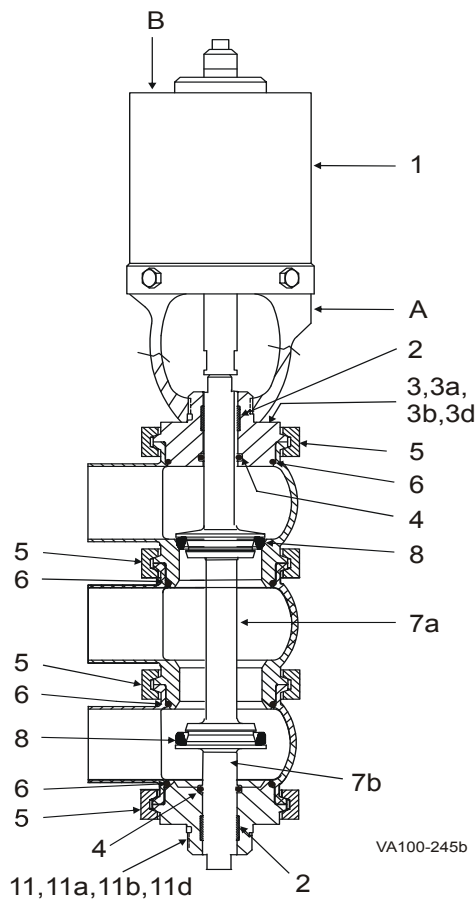

Figure 25: W65/W85 Divert Valve
1. Remove the lower body clamp (Figure 25, item 5) and the lower body.
2. Remove the body o-ring (item 6); replace as needed.
3. If necessary, remove the lower bearing carrier (item 11) from the lower body.
4. Remove the body o-ring (item 6) and stem o-ring (item 4) from the bearing carrier; replace as needed.
5. Inspect and replace the PTFE bearing (item 2) as needed.
6. Using 5/8-inch wrench flats on the stem, unscrew and remove the lower valve stem (Figure 25, item 7b).
8. Replace the lower seat ring (Figure 25, item 8) as needed. See "Seat Replacement" on page 35.
9. Remove the middle body clamp (item 5) and the middle body.
10. Remove the middle body o-ring (item 6); replace as needed.
12. Remove the upper body clamp (item 5) and the upper body from the adapter (item 3).
13. Using 5/8-inch wrench flats on the stem, unscrew and remove the upper valve stem (item 7a).
14. Replace the seat ring (item 8) as needed. See "Seat Replacement" on page 35.
15. Unscrew the adapter (item 3) from the yoke.
16. Remove the body o-ring (item 6) and stem o-ring (item 4) from the adapter; replace as needed.
17. Inspect and replace the PTFE bearing (item 2) as needed.
7. Using 5/8-inch wrench flats on the stem, unscrew and remove the lower valve stem (Figure 25, item 7b).
8. Replace the o-ring (Figure 25, item 9) in the counter bore of the lower stem as needed.
9. Replace the lower seat ring (Figure 25, item 8) as needed. See "Seat Replacement" on page 35.
13. Remove the middle body clamp (item 5) and the middle body.
14. Remove the middle body o-ring (item 6); replace as needed.
15. Remove the upper body clamp (item 5) and the upper body from the adapter (item 3).
16. Using 5/8-inch wrench flats on the stem, unscrew and remove the upper valve stem (item 7a).
17. Replace the seat ring (item 8) as needed. See "Seat Replacement" on page 35.
18. Unscrew the adapter (item 3) from the yoke.
19. Remove the body o-ring (item 6) and stem o-ring (item 4) from the adapter; replace as needed.
1. Screw the adapter (Figure 25, item 3) onto the yoke.
2. Install the upper body o-ring (item 6) onto the adapter.
3. Using 5/8-inch wrench flats on the stem, install the upper valve stem (item 7a).
5. Assemble the upper body to the adapter; secure it with the upper body clamp (item 5).
6. Install the middle body o-ring (item 6) onto the upper body.